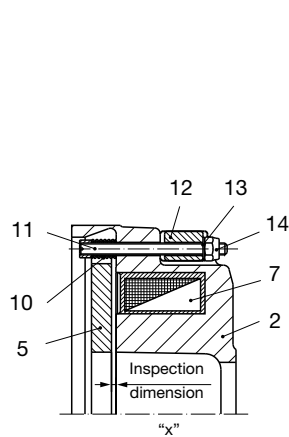

Fig. 1
Installation Procedure (Figs. 1 and 2):
2. Remove the sealing plugs from the hand release bores in the coil carrier (2).
3. Put the thrust springs (10) onto the threaded bolts (11). The threaded bolts (11) are manufacturer-side produced with a key as a tension element and are secured with glue up to size M60. This connection must not be loosened.
4. Push the threaded bolts (11) with thrust springs (10) from the inside (facing the magnetic coil (7)) into the hand release bores in the coil carrier (2).
5. Push the O-rings (only with sealed hand release, Type 891._ _ _1) over the threaded bolts (11) and insert them into the recesses of the coil carrier (2).
6. Push intermediate plates (only with sealed hand release, Type 891._ _ _1) over the threaded bolts (11).
7. Put the switch bracket (12) in place, put washers (13) onto it and lightly screw on the self-locking hexagon nuts (14).
8. Tighten both hexagon nuts (14) until the armature disk (5) lies evenly on the coil carrier (2).
9. Loosen both hexagon nuts (14) by “Y” turns (see Table 1, page 7), thereby creating an air gap between the armature disk (5) and the coil carrier (2) or the inspection dimension “x” (Fig. 1).